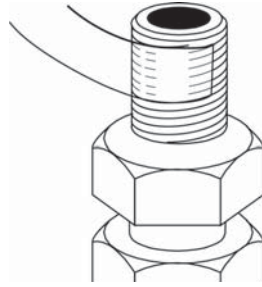

Figure 3
3. Wrap a 3" (7.62 cm) long piece of PTFE tape to the right around the male threads of the fittings. Wrap tightly so that it conforms to the threads of the fitting and overlaps about 1/2". (Figure 3)